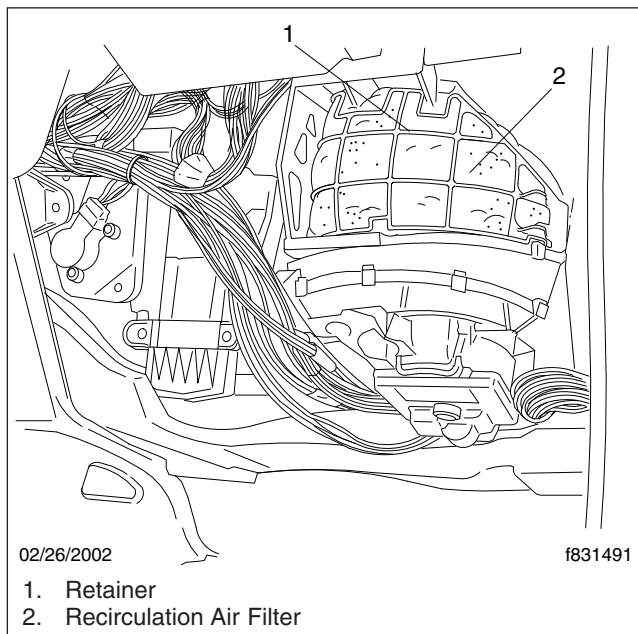

Fig. 4, Cab Recirculation Air Filter
3. Remove the retainer that holds the recirculation air filter in place; see Fig. 4.
6. Install the retainer in the HVAC assembly; see Fig. 4.